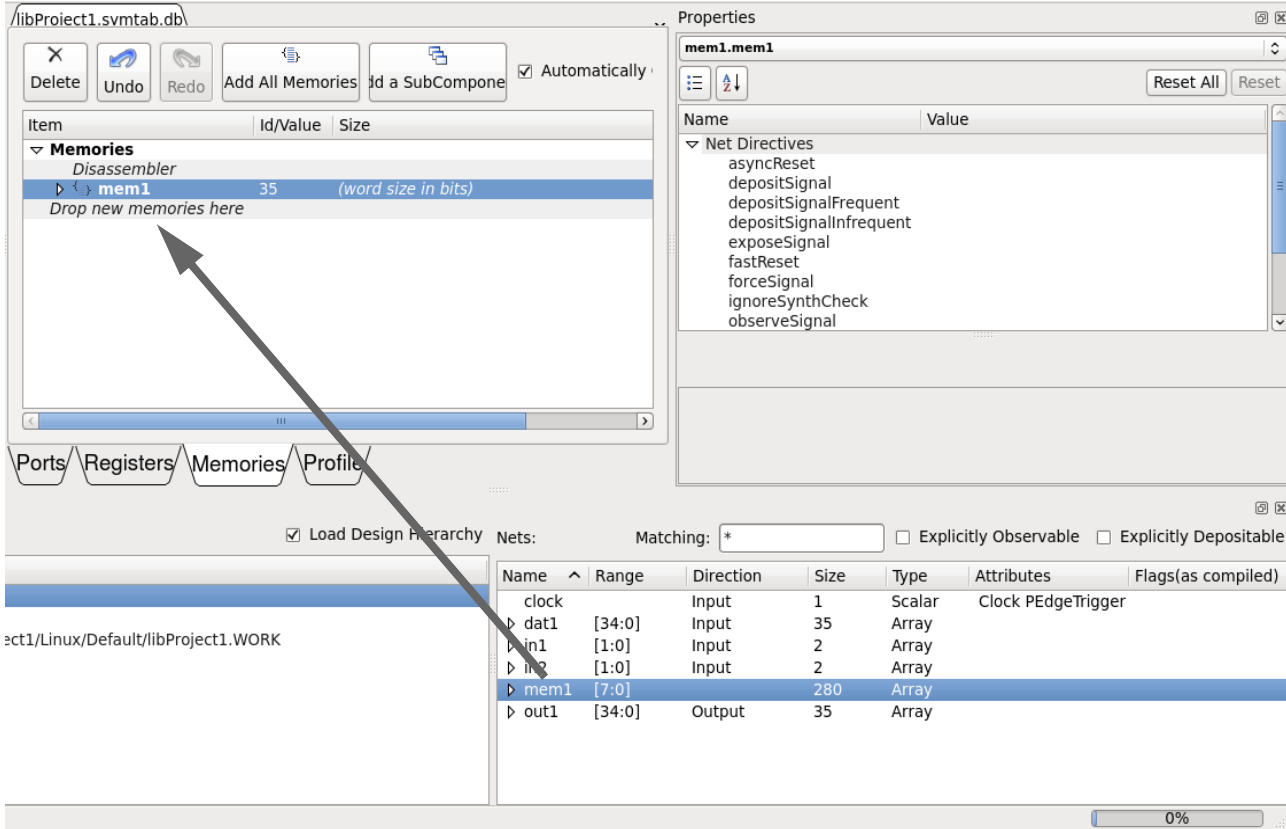

Figure 4-40 Drag Memory to Memories Page
2. Drag the instance to the *Memories* window, as shown in Figure 4-40.
- **Individually.** Highlight individual memories in the *Nets* list of the *Design Hierarchy* pane. Highlight one memory at a time and drag it to the *Memories* box in the main *Memories* tab window, dropping it where you want it to appear in the list (see Figure 4-40).